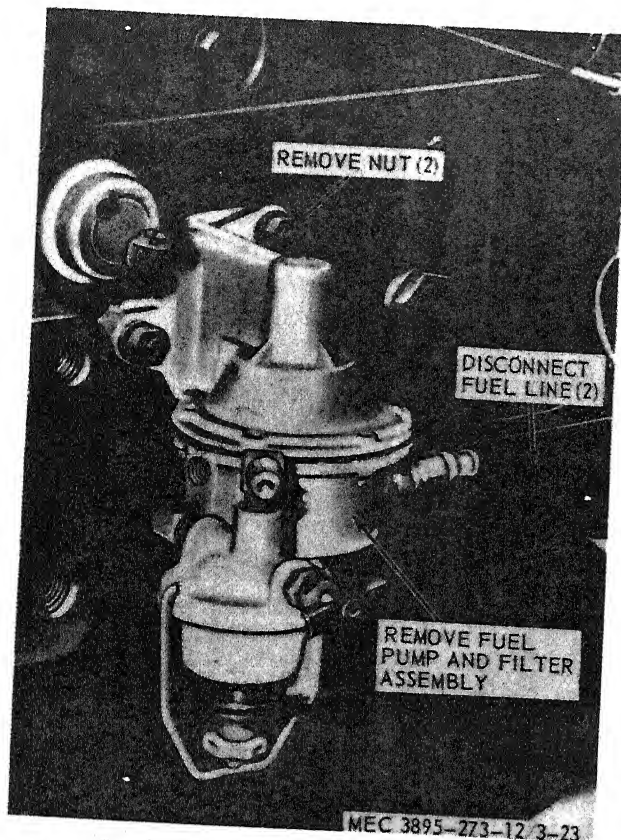

Figure 3-21. Fuel pump, removal and installation.
*a. Removal.* Remove the fuel pump from the engine as instructed on figure 3-21.
- (1) Clean all parts with an approved cleaning solvent.
- (2) Inspect the fuel pump for wear, leaks, defects, and damage.
- (3) Replace a worn, damaged, or defective fuel pump.
*c. Installation.* Install the fuel pump in reverse of the instructions on figure 3-21. Put new gasket in between pump-flange and pad.